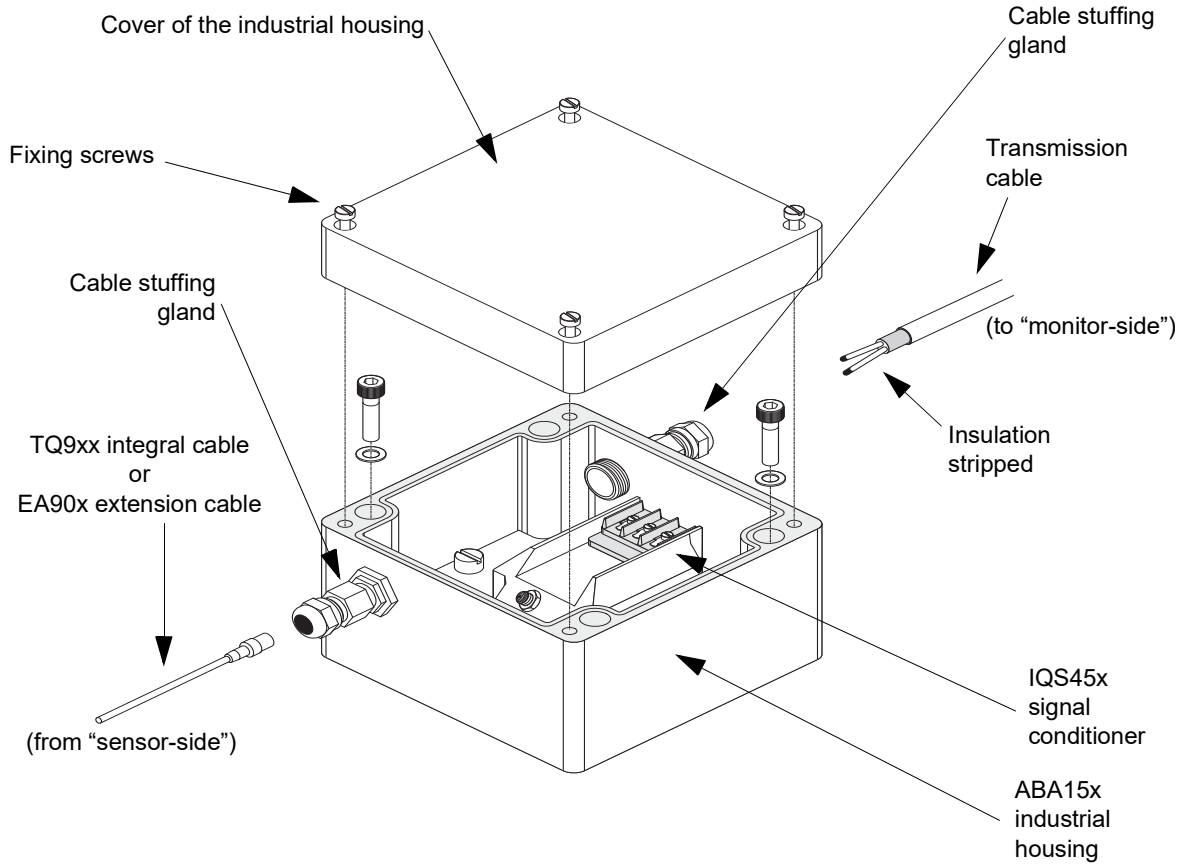

Figure 4-7: An IQS45x signal conditioner in an ABA15x industrial housing
An IQS45x signal conditioner is generally mounted in an ABA17x or ABA15x or industrial housing. The sensor cabling from the “sensor-side” uses a miniature coaxial connector and the transmission cable to the “monitor-side” uses screw-terminals (see Figure 4-7).
- 2- Open the door or remove the cover of the industrial housing (see example in Figure 4-7 for an ABA15x industrial housing).
- 3- Identify the coaxial sensor cable from the “sensor-side” and each wire for the transmission cable to the “monitor-side” that are connected to the IQS45x. See Figure 4-7 and use Table 4-4 to record the number and/or colour for each wire.